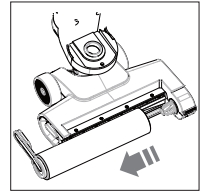

Fig. 14 – Removing the microfibre roller
- ▶ Pull the locking tab on the microfibre roller to the left and remove the microfibre roller (**see Fig. 14**).